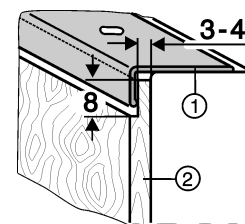

Fig. 10
- For thicker decor panels Fig. 10 (2), reduce their thickness to max. 4 mm, as illustrated.